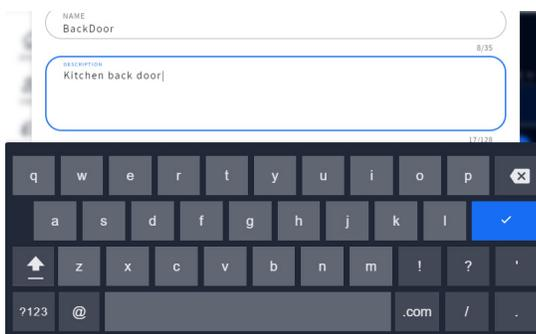

Fig. 1.13
**Direct Access Fields:** These are fields you can type directly into. When you tap in this field, a pop-up keyboard also opens (see Fig. 1.13). This allows you to enter information using the touch screen (without the need for a physical keyboard).